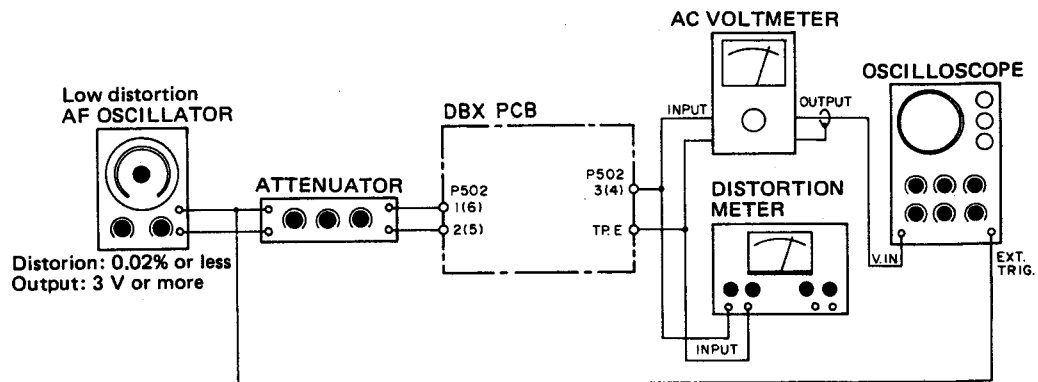

Fig. 5-10
4. Change the connections to Fig. 5-10, then feed a 1 kHz/-8 dB (308 mV) input signal to the INPUT terminal. Adjust R54/R64 (ENCODING LEVEL) so that AC voltmeter reads -8 dB (308 mV).